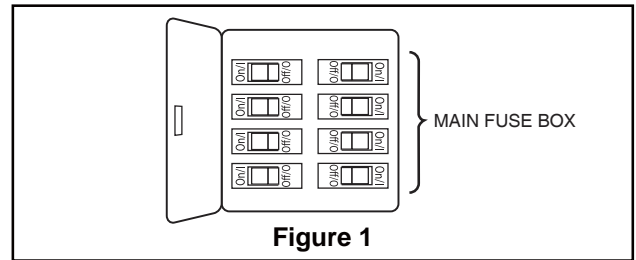
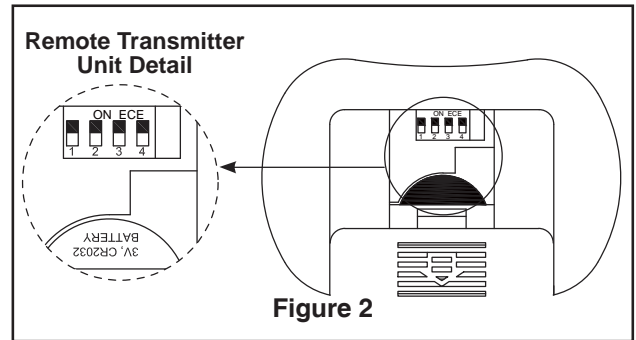

Figure 1
Figure 2
Your new ceiling fan will require a grounded electrical supply line of 120 volts AC, 60 HZ, 15 Amp Circuit. Electrical code requires use of a fan-rated outlet box to support the extra weight and motion associated with a ceiling fan. A fan-rated box will be labeled as such and typically supports up to a 70lb ceiling fan. Fan-Rated Outlet Boxes vary in ratings and design. Ensure the ratings of your ceiling fan outlet box meet the requirements for the ceiling fan being installed. Figure 1, Figure 2 and Figure 3 depicts different structural configurations that may be used for mounting the outlet box.
### Low profile box (Figure 1)
### Deep box (Figure 2)
1. Remove the hanger ball portion from the downrod /hanger ball assembly by loosening the set screw in the hanger ball until the ball falls freely down the downrod. Remove the pin from the downrod, then remove the hanger ball. Retain the pin and hanger ball for reinstallation in Step 6 (Figure 1).
2. Remove the hairpin clip and clevis pin from the bottom of downrod. Retain the pin and clip for reinstallation in Step 4 (Figure 2).
To avoid possible fire or shock, be sure electricity is turned off at the main fuse box before hanging. (Figure 1)
The fan must be hung with at least 7' of clearance from floor to blades. (Figure 2)
To avoid possible electrical shock, be sure electricity is turned off at the main fuse box before hanging (Figure 1).
1. To set the transmitter code, remove battery cover by pressing firmly below arrow and sliding cover off. Slide code switches to your choice of up or down position. Factory setting is all up. Do not use this position. With a small screwdriver or ball point pen slide firmly up or down. Replace battery cover on the transmitter (Figure 2).
1. Remove one of the two shoulder screws in the hanger bracket. Loosen the second shoulder screw without fully removing it. Assemble canopy by rotating key slot in canopy over shoulder screw in hanger bracket. Tighten shoulder screw. Fully assemble and tighten second shoulder screw that was previously removed. (Figure 1)
2. Securely attach and tighten the canopy screw cover over the shoulder screws in the hanger bracket utilizing the keyslot twist-lock feature. (Figure 2)
1. Position the blade over the blade holder with threaded posts showing. Make sure the bottom edge of the blade is fully seated against the blade arm. With a Phillips screwdriver, tighten 3/16"-24 washer head screws and fiber washers to secure the blade to the blade arm (Figure 1).
2. Secure the blade holders to the motor assembly using the 1/4"-20 screws (Figure 2).
- 2. Restore electrical power to the outlet box by turning the electricity on at the main fuse box (Figure 2).
2. Install the control bracket with two #6-32x 3/4" screws. Push the four plastic plugs in to cover the screw holes. (Included in the control packaging). (Figure 2)
2. Install the control bracket with two #6-32x 1" screws. Push the four plastic plugs in to cover the screw holes. (Included in the control packaging). (Figure 2)